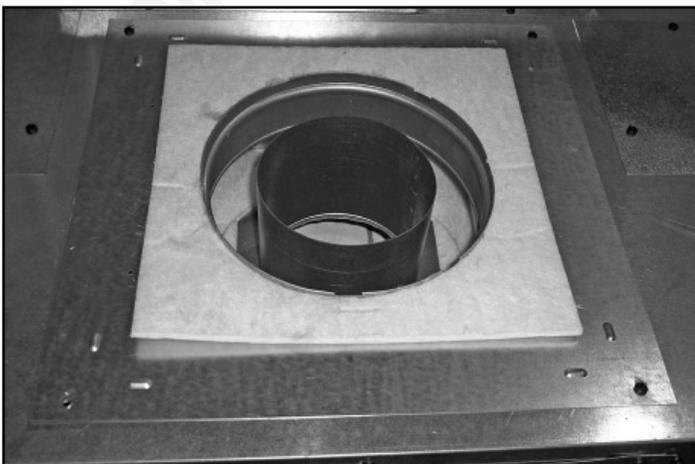

Figure 7.2 Remove White Insulation
**Note:** If the appliance is to be top vented discard this plate and replace the screw you removed. If the appliance is to be rear vented, continue to the next step and Figure 7.2.
- Remove the white insulation and set aside. See Figure 7.2.